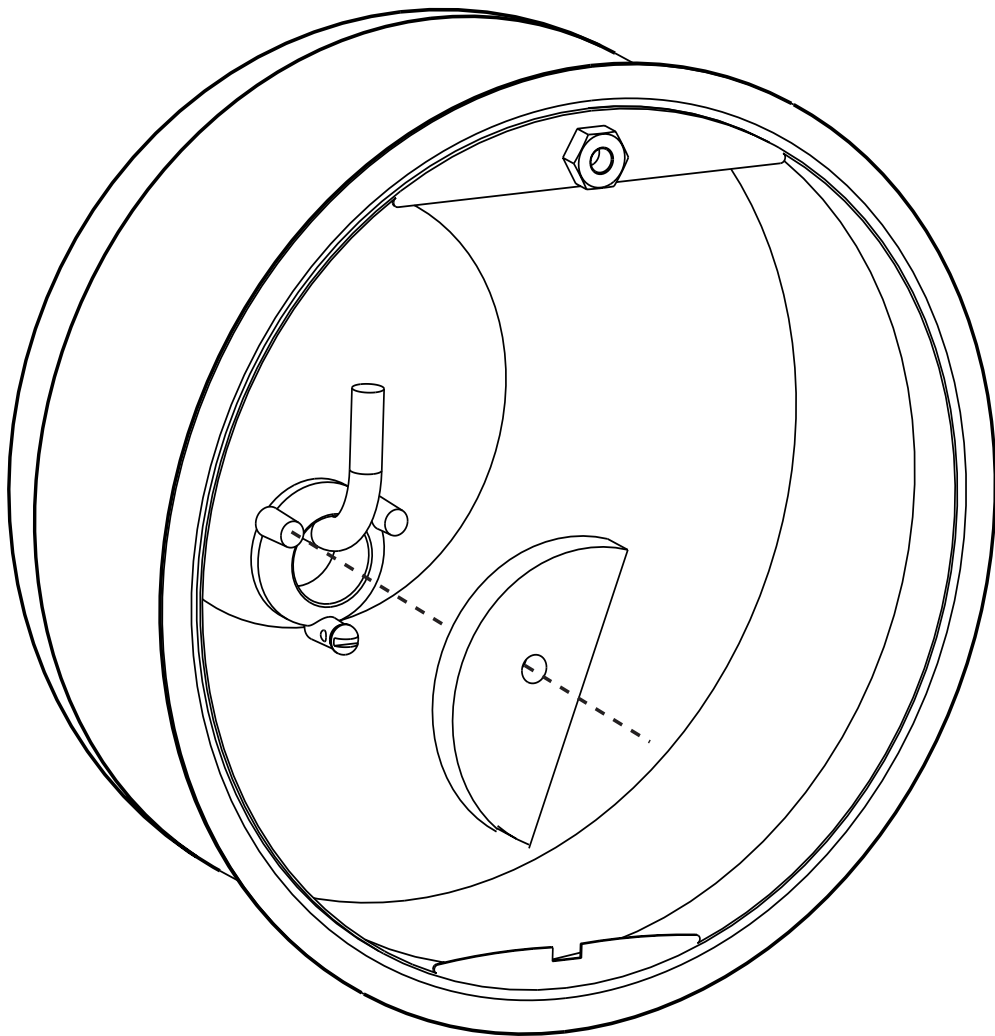

Figure 5.
2. Position the anode to clear the fixture cord with its rounded edge pointed away from the center of the conduit entry, see Figure 5.